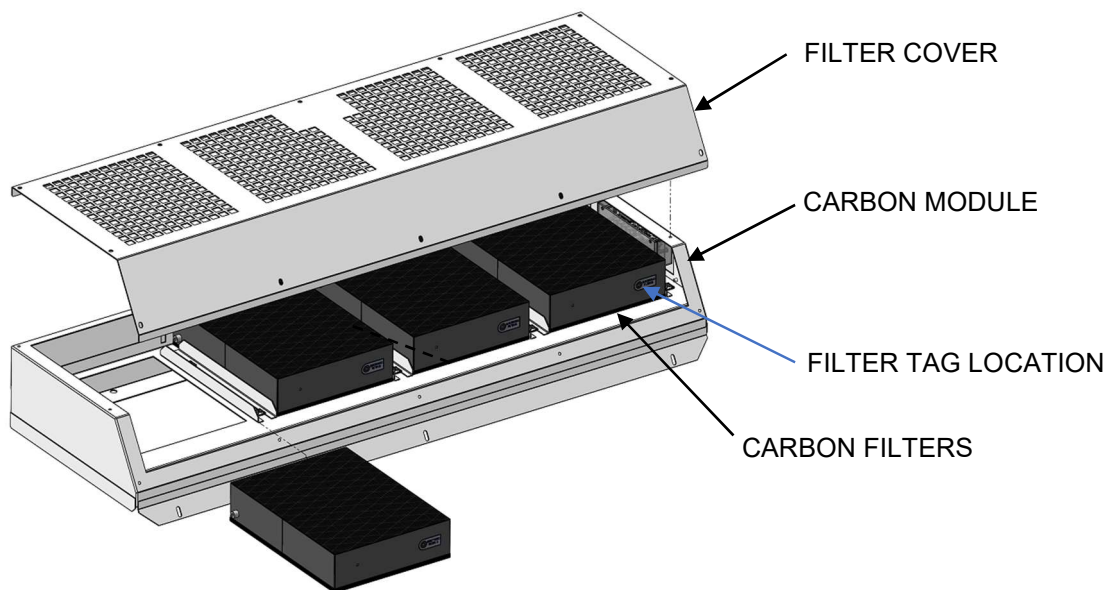

Fig 4.5
- If a carbon module is fitted it must be removed to allow access to the HEPA filter, ref Fig 4.5. Remove the carbon module cover and remove all the carbon filters. Unplug the carbon module from the rear of the PCC V2 unit, then unscrew the 3 bolts on the front flange of the carbon module. Pull the carbon module up and forward to release it from the rear retaining brackets.
Refer to Fig 4.5 for reference.